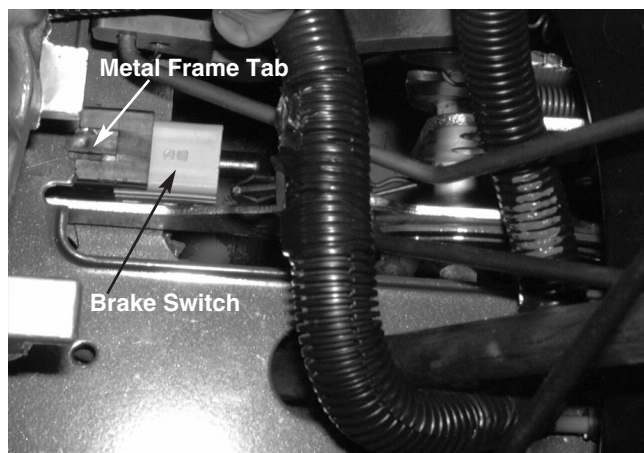

FIGURE 1.
- 1). Locate and remove the brake safety interlock switch from the metal frame tab. See figure 1.